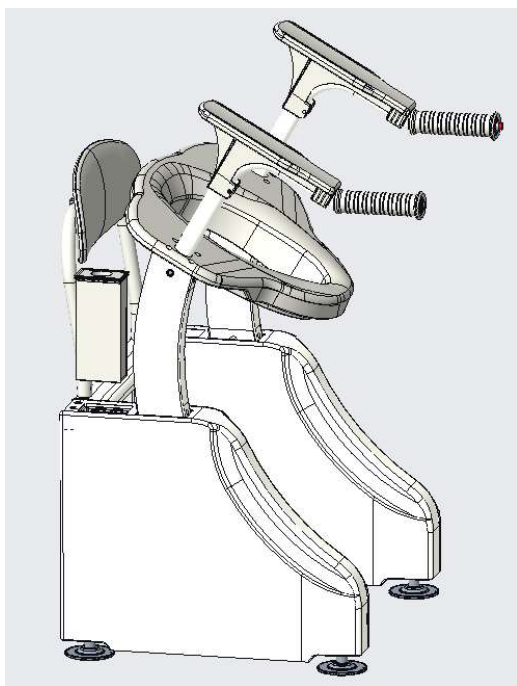

Fig 2 Installation of battery
- 4) Insert the battery to the battery box of the equipment (Fig 2);